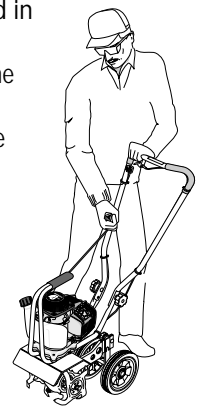

Figure 6
4. Stand in the starting position (Figure 6), keeping your feet positioned safely away from the tines.
NOTE: An alternate stabilization method is to stand in the starting position (Figure 6), but place one hand on the carrying handle while pulling the starter rope with the other hand.